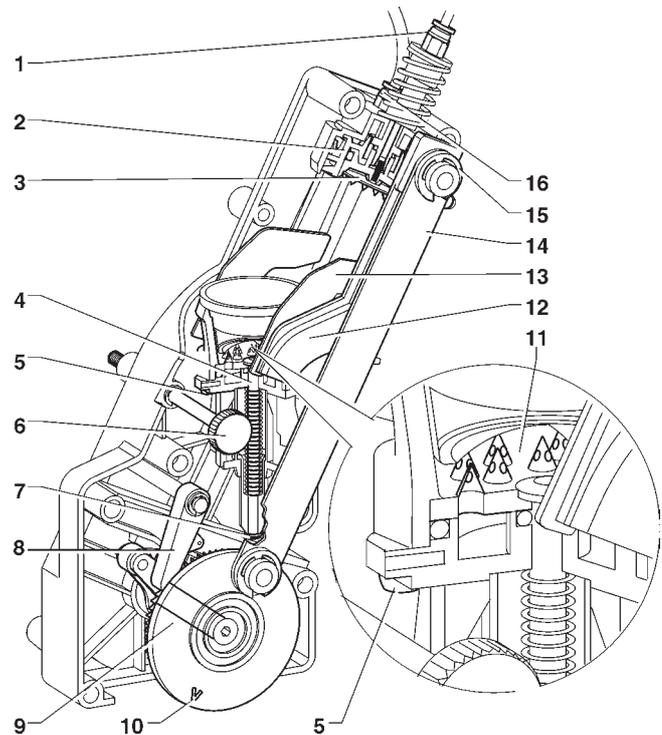

Fig. 22
- remove the teflon hose from the upper piston, connected to the boiler and to the tube for hydraulic control of the piston, paying undoing the colour rings (see Fig. 22);